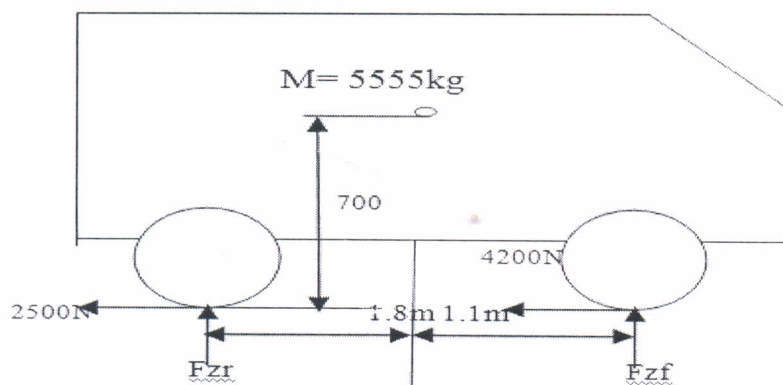

Fig1.
- a) Explain the condition for front wheel lockup and rear wheel lock up with necessary equations? (5)
- b) Explain (i) Toe-in, Toe-out (ii) Reference frame iii) camber and camber thrust iv) slip angle and aligning torque? (3)
- c) Explain the steering geometry with suitable sketch? (2)
- a) A van showing in fig1. Braking with the forces shown there at the front and rear axle. Determine the braking condition for this condition.